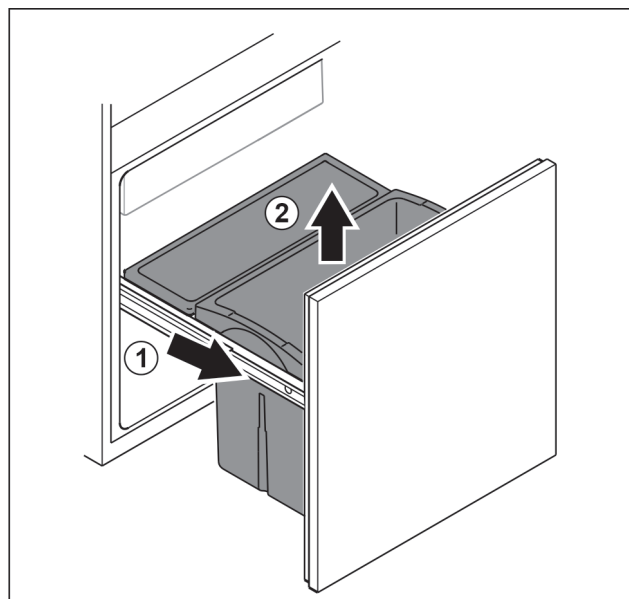

Fig. 30
- Pull out the trolley all the way Fig. 30 (1).
- Take out the drawer upwards Fig. 30 (2).